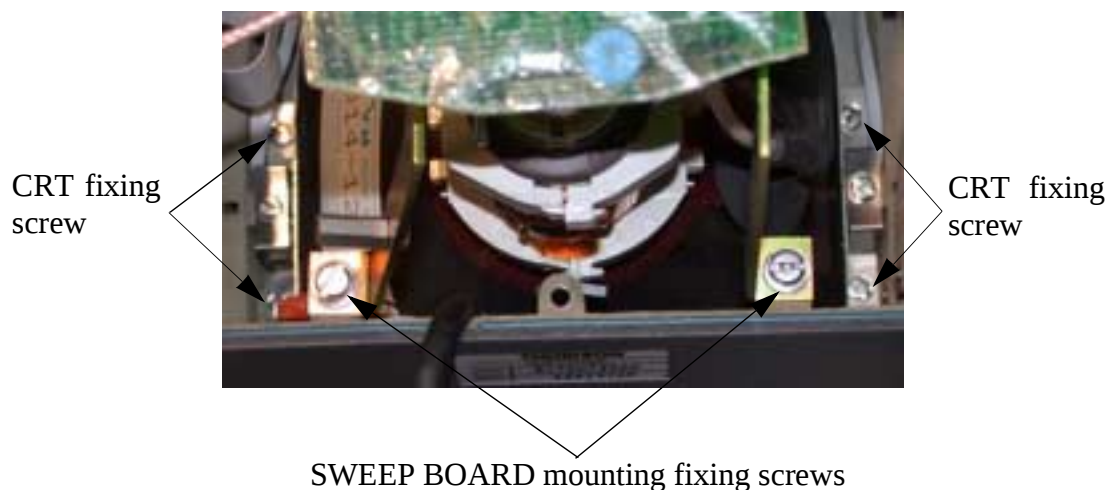

Figure 1.8 : SWEEP BOARD mounting and CRT fixing screws
- Remove the SWEEP BOARD mounting by unscrewing both fixing screws (figure 1.8).
- Unscrew the 4 CRT fixing screws (figure 1.8).